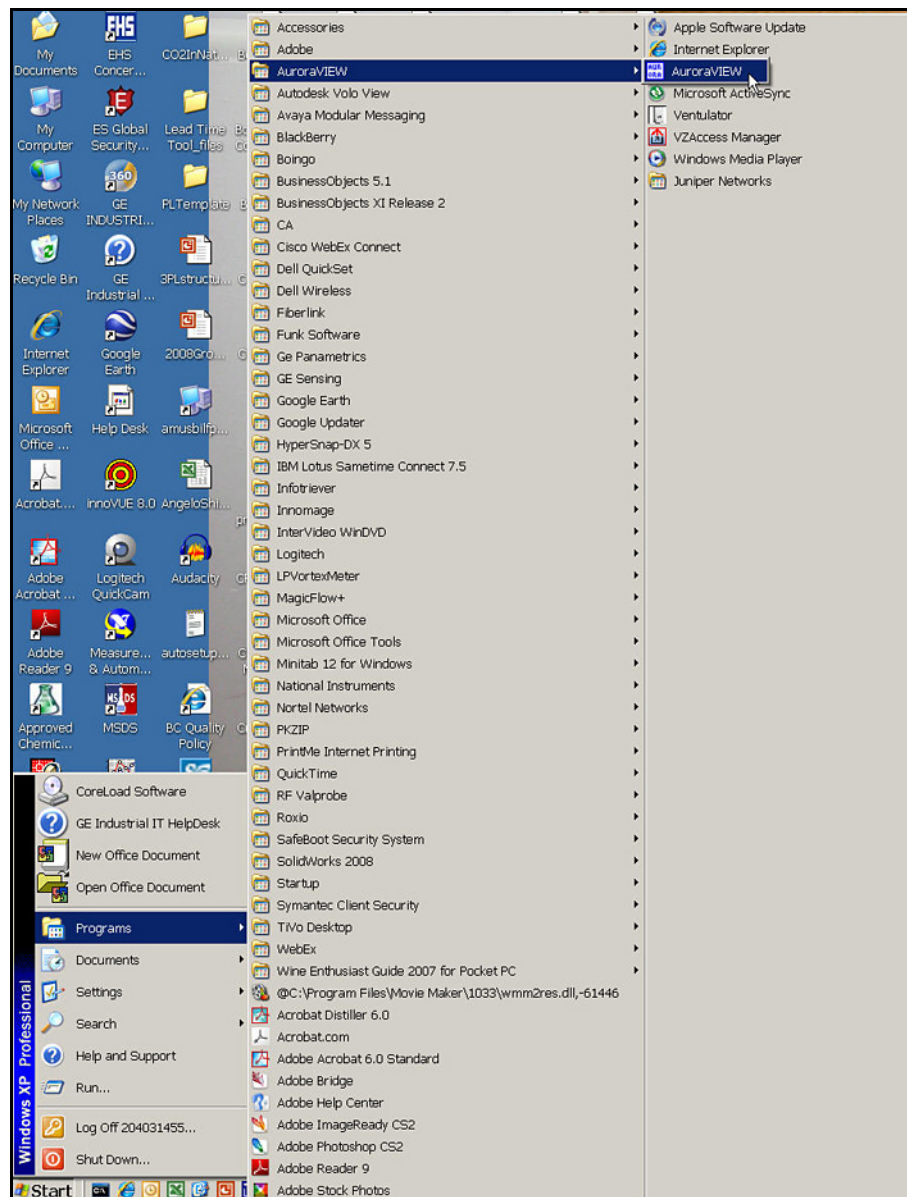

Figure 28: AuroraView in Programs Menu
1. From the Start menu, click Programs → AuroraView → AuroraView (see *Figure 28* below).